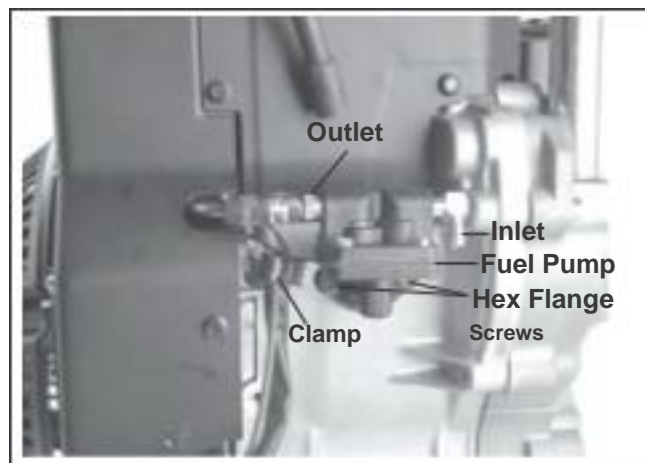

Figure 11-46. Installing Fuel Pump.
1. Install the rubber line and two hose clamps to the fuel pump end of the metal fuel line. Secure the rubber fuel line to the metal fuel line with one of the clamps. See Figure 11-46.